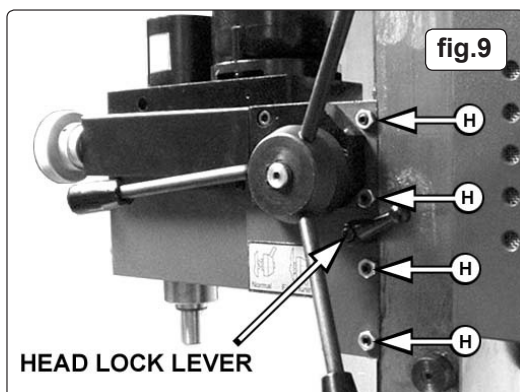

fig.9
- 4.5. Setting and locking the cutter height. Once the workpiece is in place the rapid drill feed can be used to bring the cutter closer to the workpiece but the final setting of the cutter height must be done with the fine feed wheel. To ensure accuracy during milling the cutter height setting must then be locked by tightening the head lock lever. (see fig.9)
- 6.6.2. Adjust the head movement using the four adjusters marked 'H' in fig.9